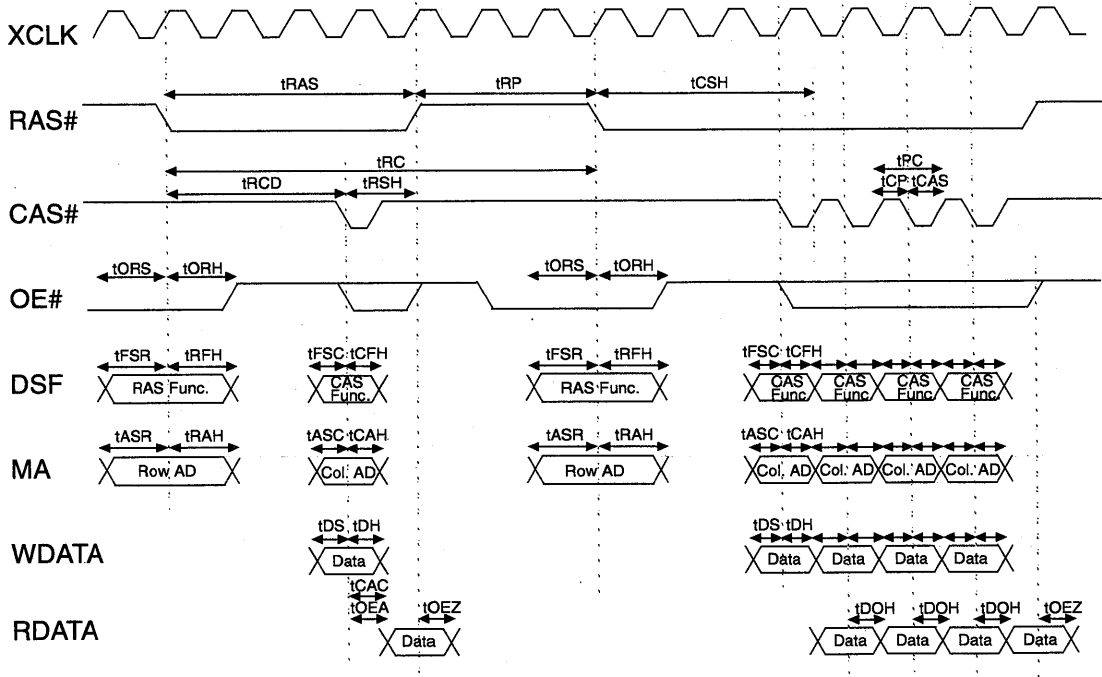

Figure 7-9. WRAM Cycle Timing
- WRAM Cycle Timing, see *Figure 7-9*.